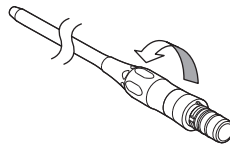

Fig. 21
- 2 Turn the twist collet to the closed position (if applicable) (Fig. 21).